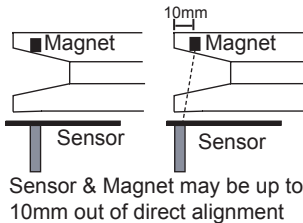
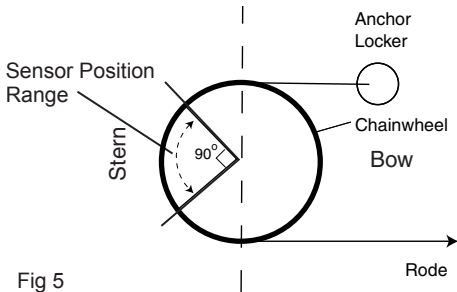

Fig 3
Fig 5
**Sensor Position:** The sensor must be fitted into the deckplate within the sensor position range at the stern end of the windlass (See Fig 5). It must also be aligned with the magnet so that the rode passes between the sensor and the magnet. The centre of the magnet and the centre of the sensor may be up to 10mm out of direct alignment (See Fig 3). The gap between the sensor and magnet must be as per the table below.